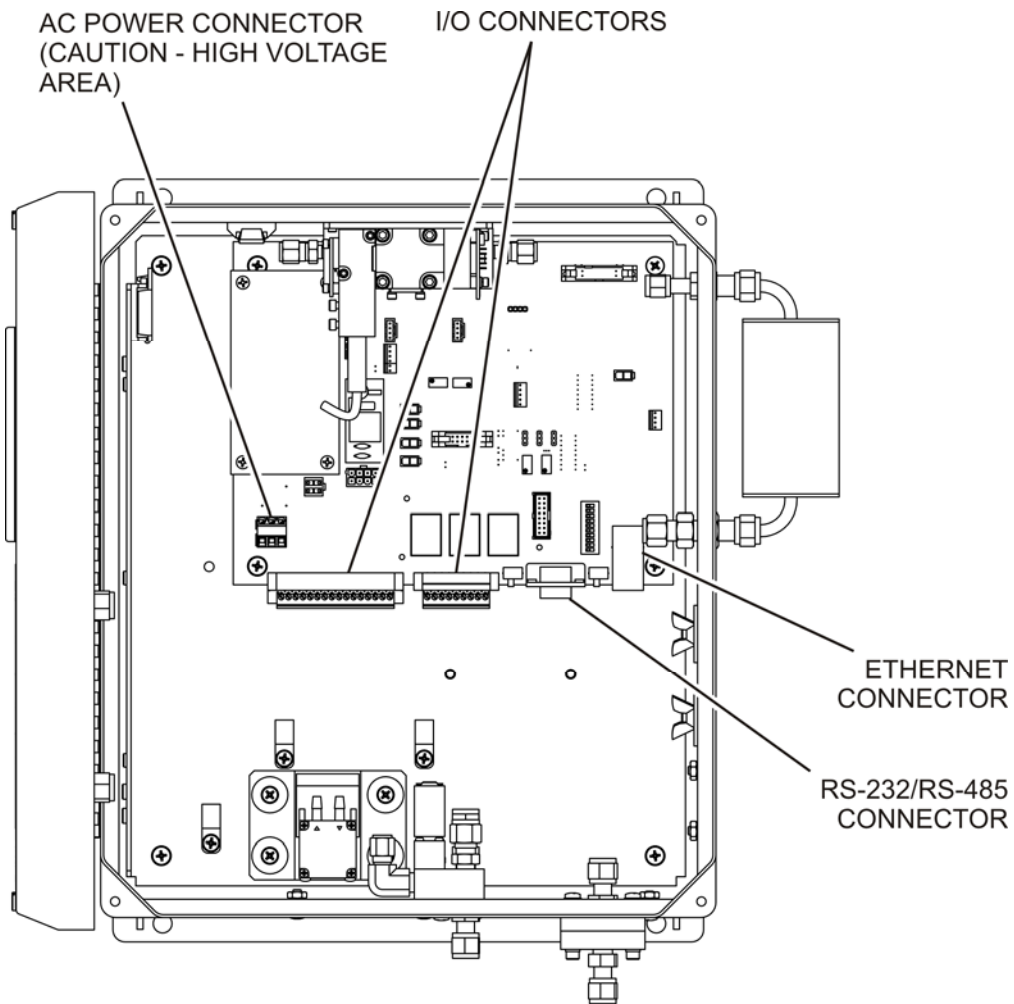

Figure 4-5: NEMA Electrical I/O Connections
2. Attach the leads of the power line to the AC power connector (see Figure 4-5).
In the NEMA configuration of the M465M, the I/O connectors are located internally in the instrument. See Figure 4-5 for their location. Connection to these terminals is usually made via a conduit connection to the NEMA enclosure. A standard conduit penetration may be added to one of the walls of the enclosure for this purpose, or the existing penetration may be used.